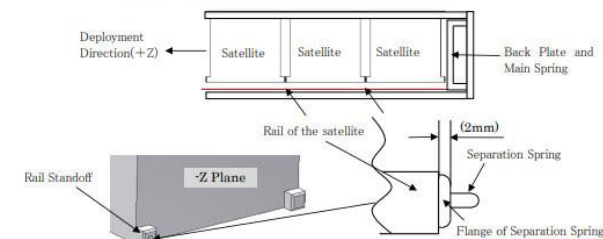

Figure G-1 Overview of Multiple Satellites with Separation Spring
- (1) The spring force of separation spring (P/N 251D939002-1) is 0.6 ± 0.06 [N].
- (2) For the installation of the separation spring, the flange of the separation spring shall closely contact the -Z end face of the satellite rail, as shown in Figure G-1. The thickness of the flange is 2 mm.